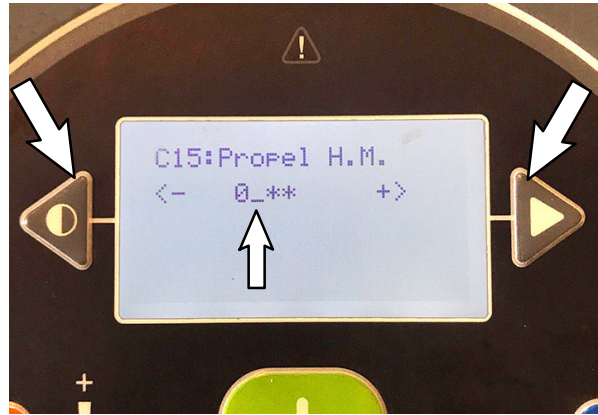
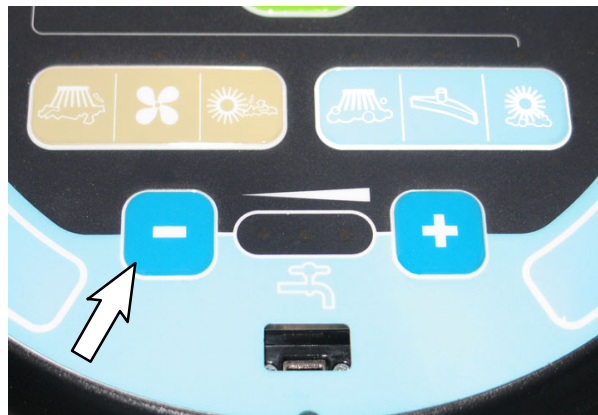

FIG. 30
FIG. 31
5. Log in to C15: Propel H.M. (hour meter reset password is 0000): Press the minus (-) button to enter 0 (zero) at first asterisk. Press the right arrow button to move to next asterisk and again press the minus (-) button to enter 0 (zero). Repeat for the remaining asterisks. Press the main scrub brush pressure button when finished. (Fig. 30/Fig. 31)